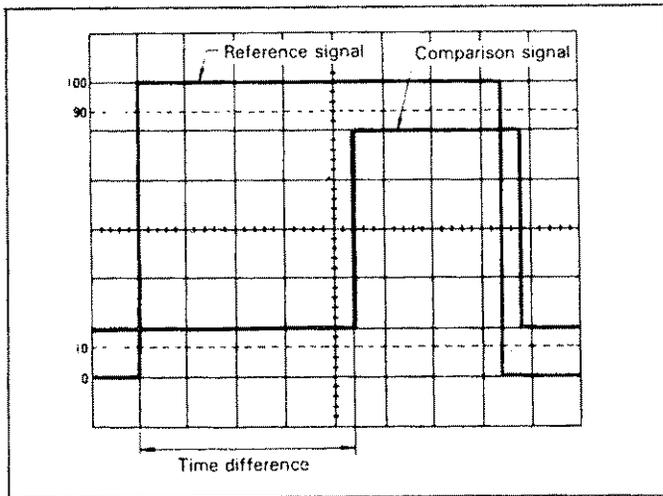

Fig. 14. Time Difference Measurement.
(Refer to Fig. 14)
1. Apply the two signals to the CH 1 (X) and CH 2 (Y) input jacks.
3. Use the $\uparrow \downarrow$ position controls to superimpose both waveforms to intersect the center horizontal graduation line as shown in Fig. 14. Use the $\leftarrow \rightarrow$ position control to set the reference signal coincident with one of the vertical graduation lines.
For the example shown in Fig. 14, the horizontal distance measured is 4.4 divisions. If the sweep **TIME/DIV** is 0.2 ms and **X10 Mag** is not used, the time difference is calculated as follows: